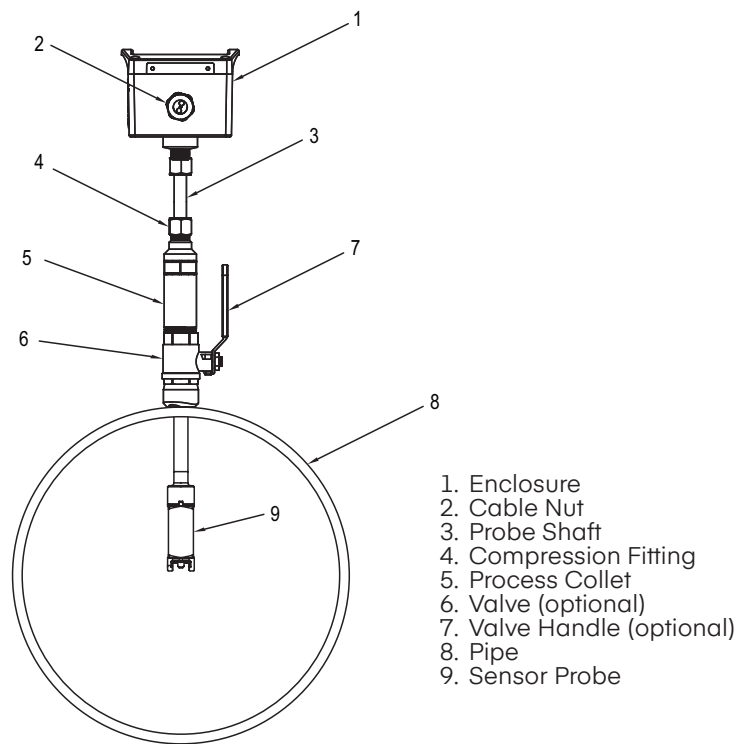

Figure 7
7.3. Preparing the Unit for Installation (Refer to Figure 7)
- Step 1:** Apply appropriate sealant to the process collet (5) threads such as application suitable sealant tape or paste.
- Step 2:** Install the process collet (5) in valve (6) then tighten by hand.
- Step 3:** Tighten the process collet (5) with a wrench using the hex geometry until snug.